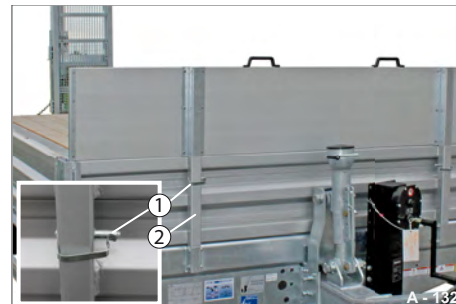

Fig. 191 Securing the platform gate attachment
- ▶ Secure the platform gate attachment with the spring pin bolts (Fig. 191/1) in both posts (Fig. 191/2).